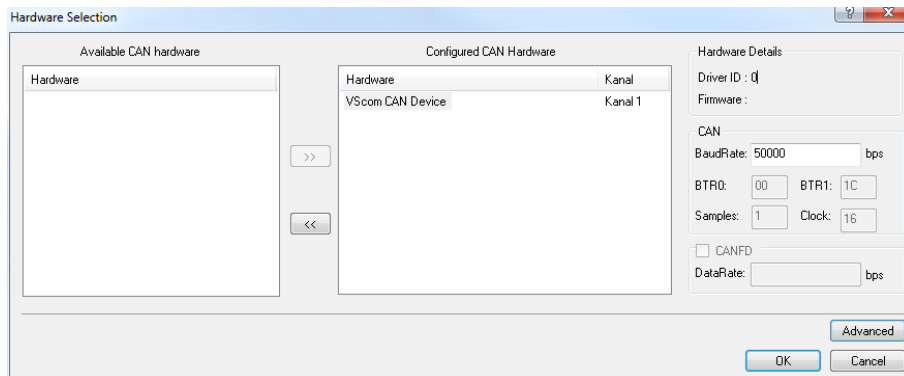

Figure 15: BUSMASTER: Select Hardware Interface
3. In the „Hardware Selection” dialog move „VScom CAN Device” from „Available CAN Hardware” to „Configured CAN Hardware” (see Figure 15)